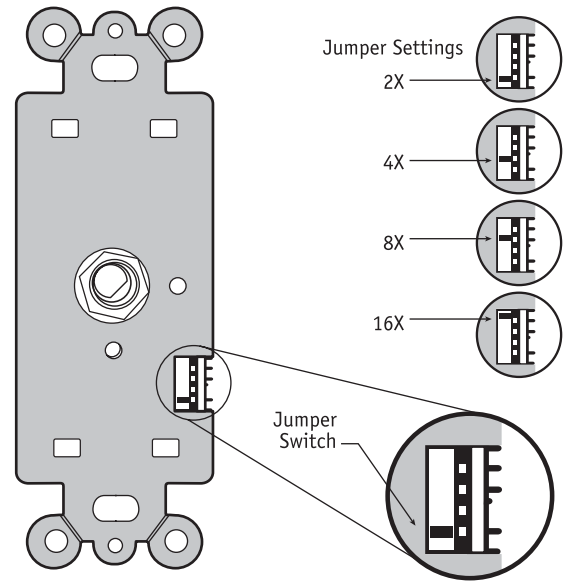

Figure 1
- 4.) Set the impedance match jumpers on all of the volume controls in the system to the same position (2X, 4X, 8X or 16X). See **Figure 1**.